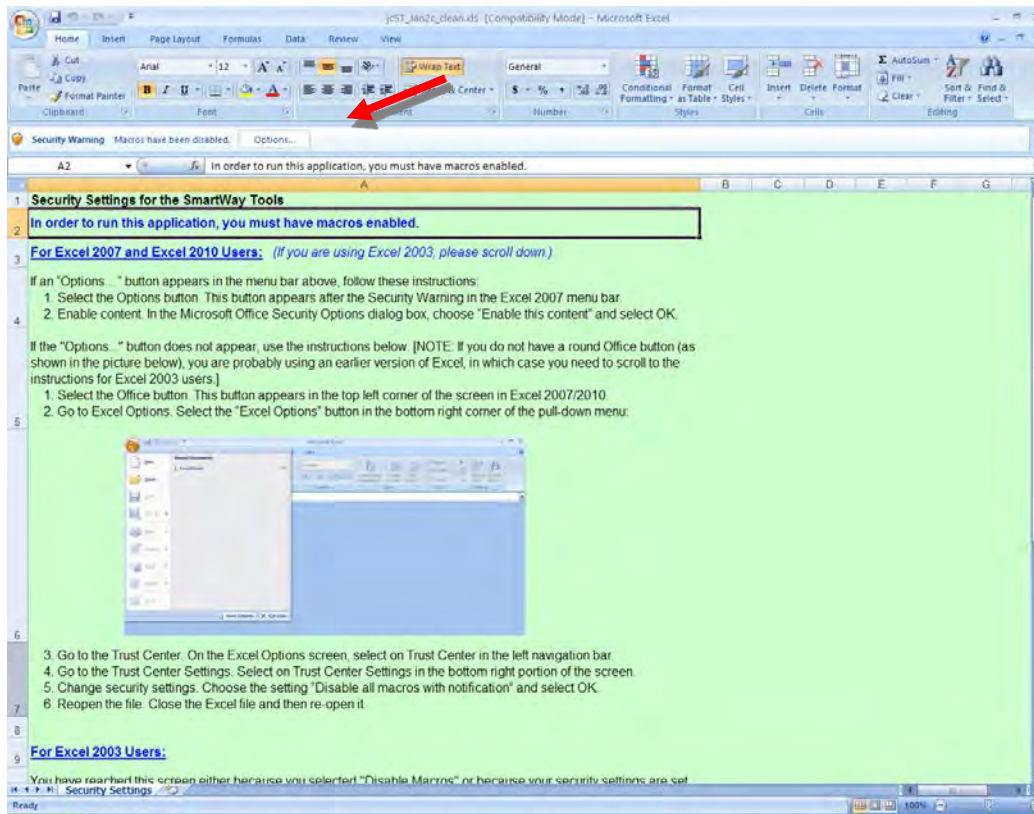

Figure B-4: Security Warning Screen
- 2) Open the file, and select the  button that appears after the Security Warning just below the menu bar (**Figure B-4**). Detailed instructions are also provided on the screen itself.